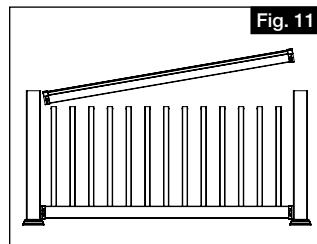

Fig. 11
- a. Begin at one side of rail and align first baluster with first routed hole on bottom side of top rail and snap top rail into position (Fig. 11).